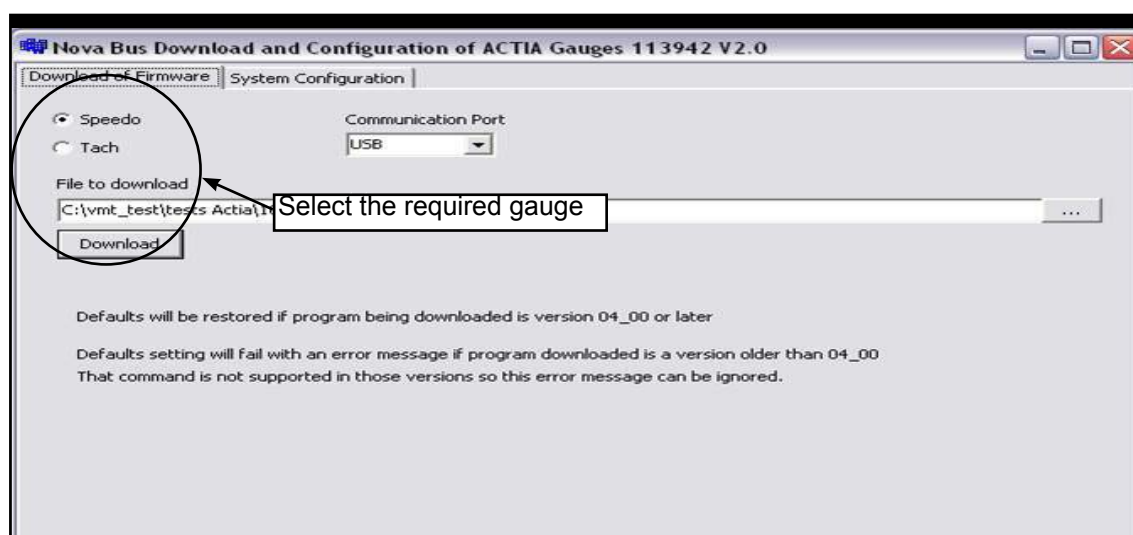

Figure 12 - Select the Required Gauge
3.1.7 Select the required gauge (see Figure 12).